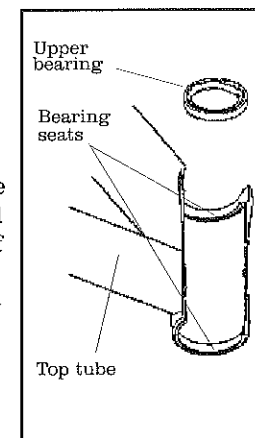

Fig. 32
1. Use a sharp knife to scrape off any residual adhesive from the bearing seat surfaces (Fig. 32).